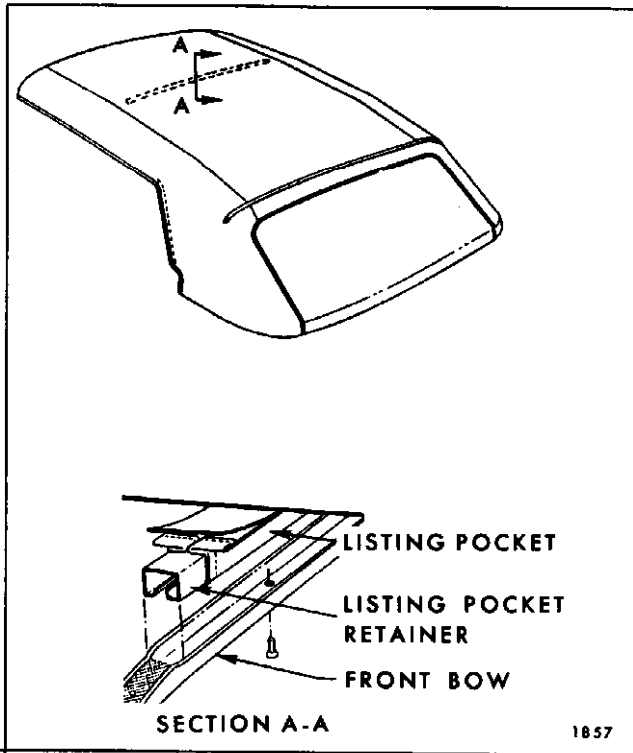

Fig. 13-32 - Listing Pocket Retainer
14. At underside of front bow, remove screws securing listing pocket retainer to bow (Fig. 13-32).
12. Install front bow to listing pocket retainer with attaching screws (Fig. 13-32).